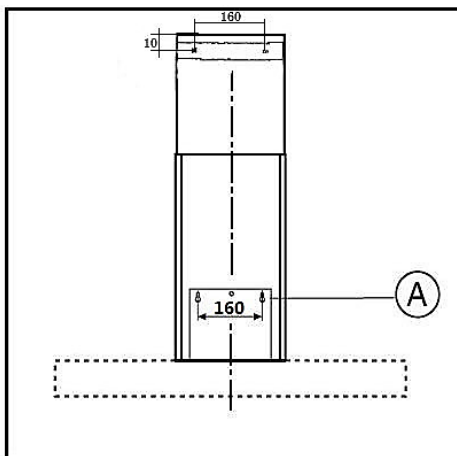

Fig.3
2. Mark a vertical centre line on the wall from the ceiling to the lower edge of the rangehood. Mark positions for the screws and contour of the mounting brackets' area, see Fig.3.